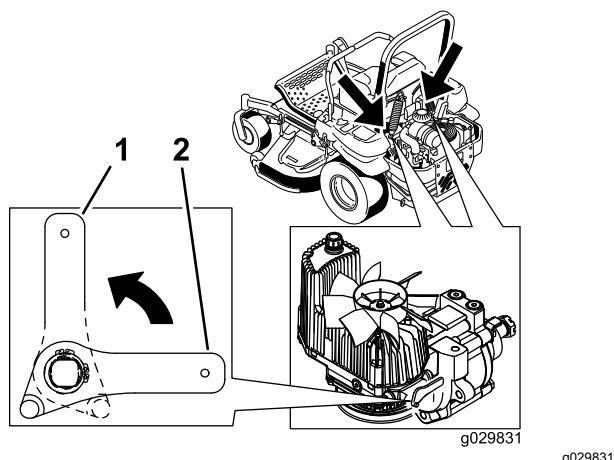

Figure 40
2. Rotate the release valve levers vertically to push the machine. This allows hydraulic oil to by-pass the pump enabling the wheels to turn (Figure 40).
4. Rotate the release valve levers horizontally to run the machine (Figure 40).